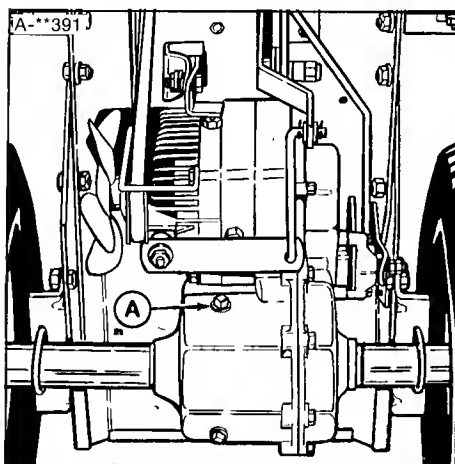

Figure 13. Differential Check Plug
2. Remove the check plug (A, figure 13) by turning counterclockwise. If the level is at the bottom of the hole, the fluid level is OK. If not, add oil. Use Simplicity Multipurpose Hydraulic/Transmission Oil or Deutz Allis Power Fluid 821.